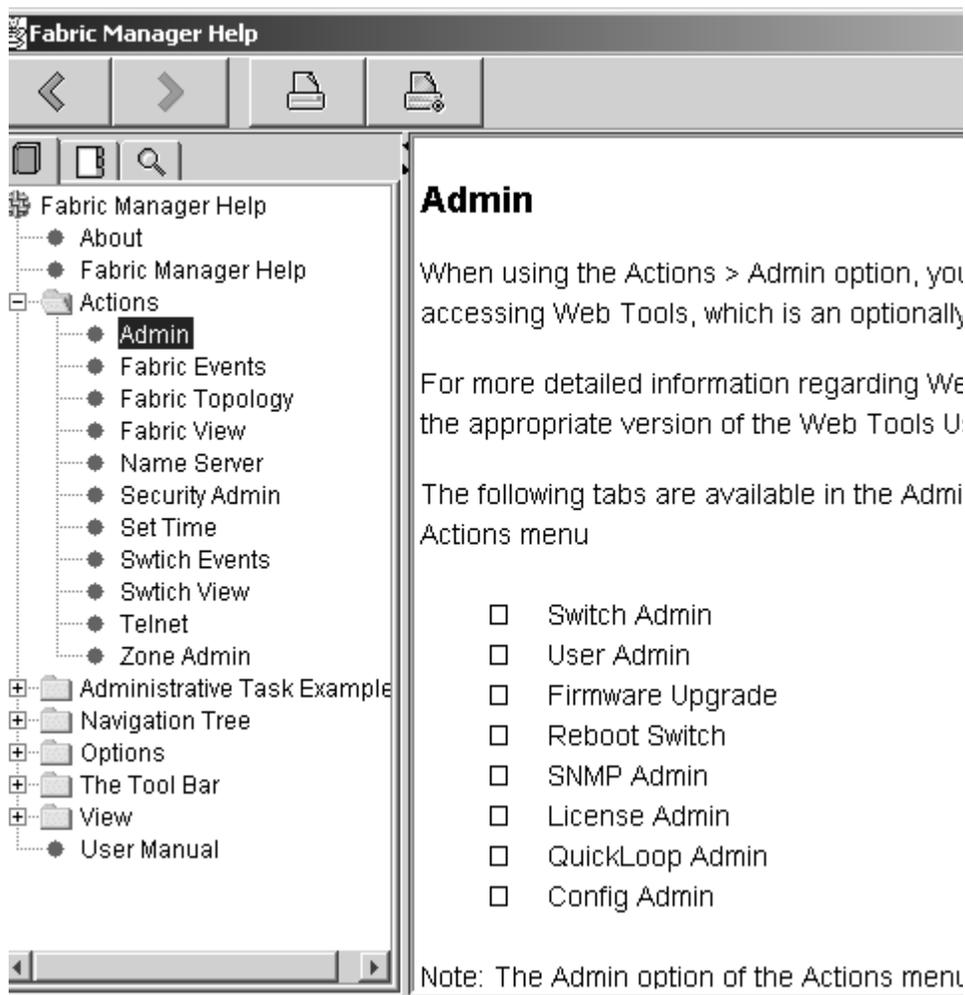

Figure 35: Sample Help dialog box of the Help menu
1. Choose **Help > Help**. The **Help** dialog box displays, as shown in Figure 35.